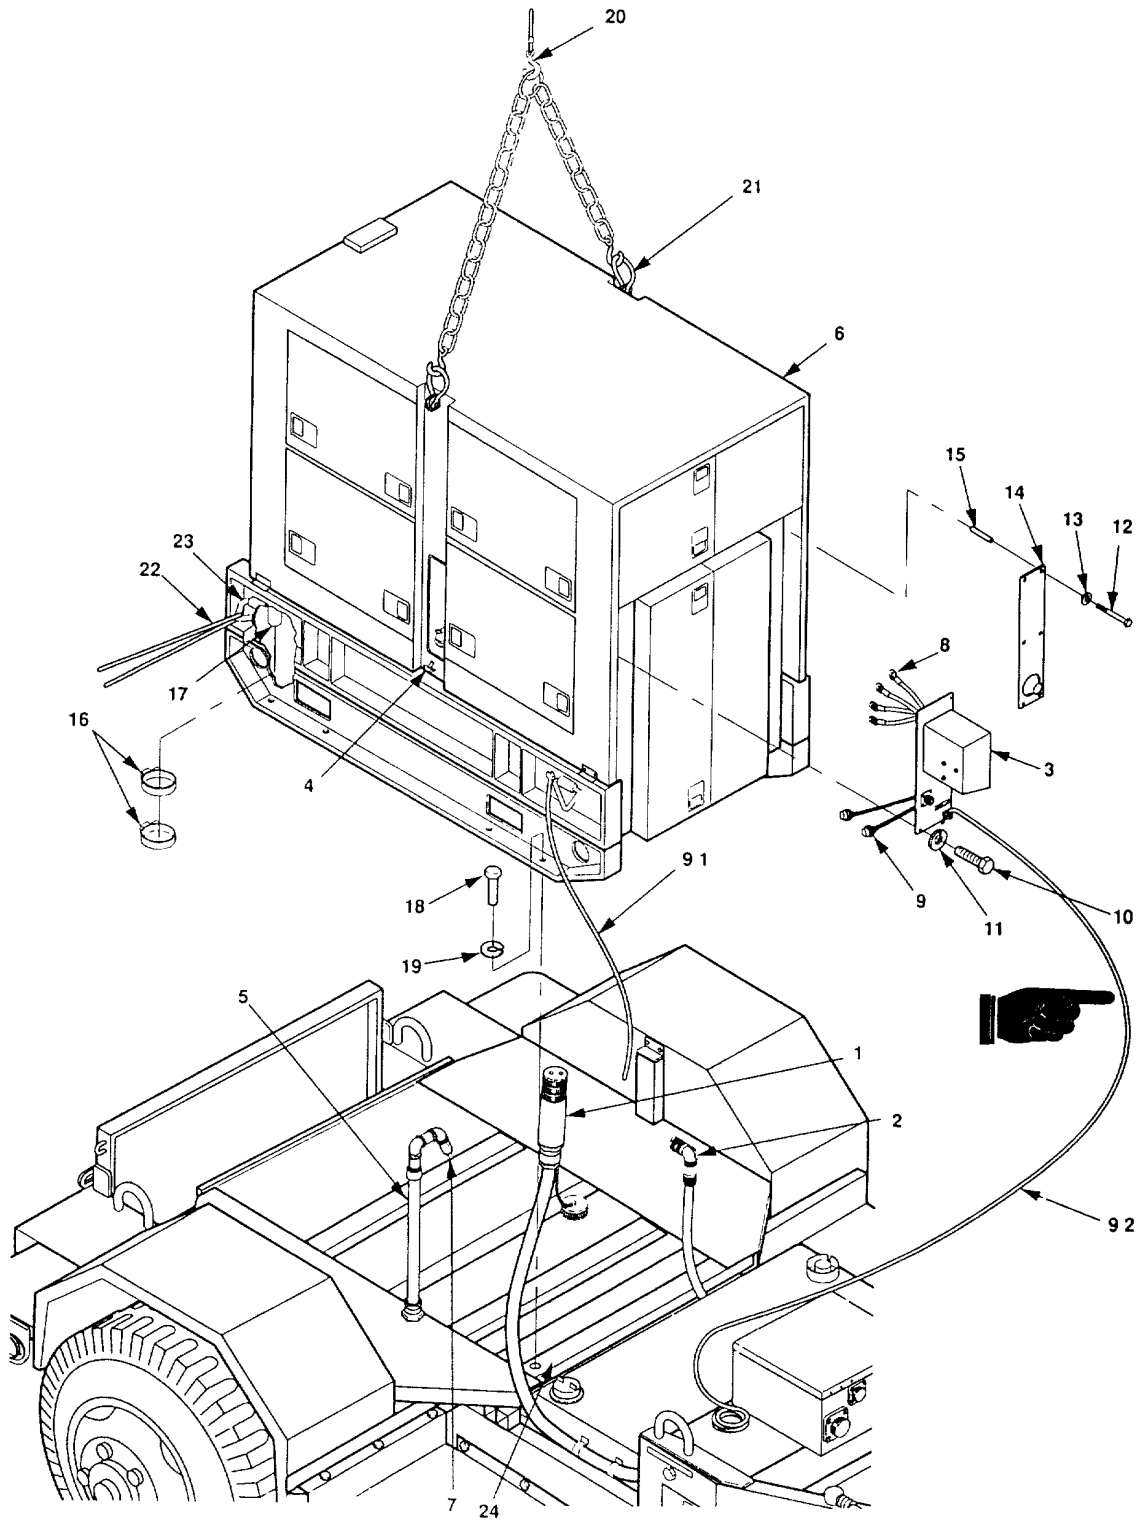
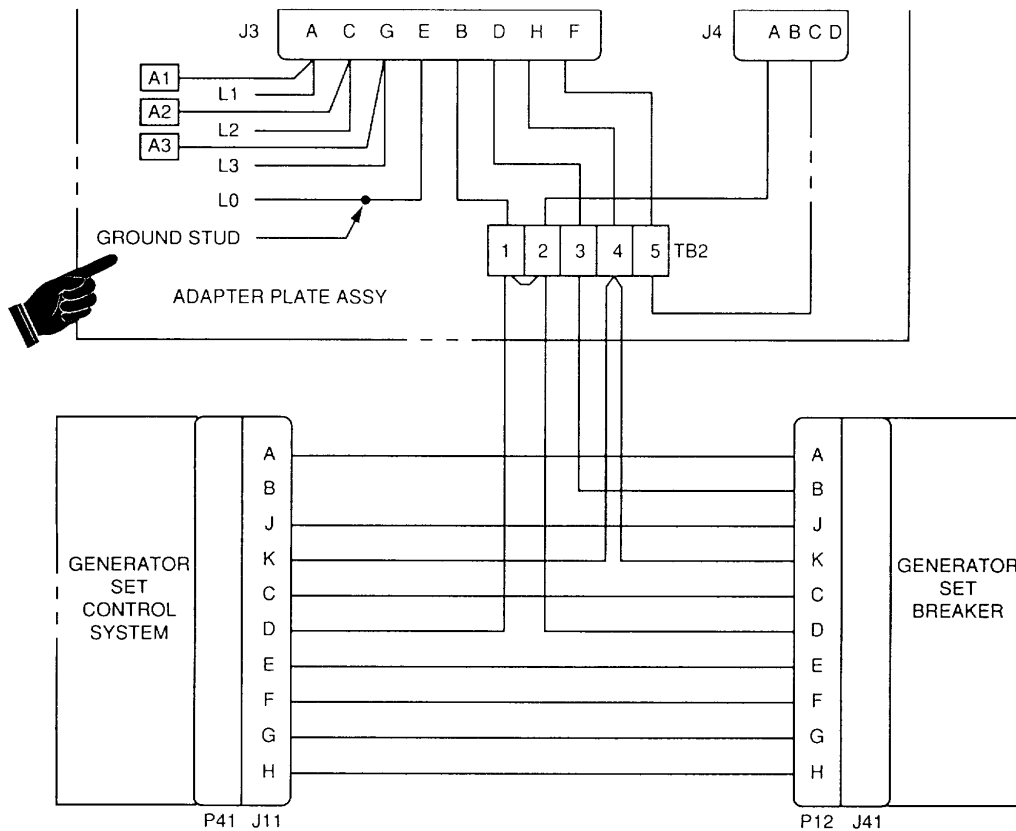

Figure 5-1. Generator Set Replacement.
Figure 5-3. Adapter Plate Assembly Wiring Diagram.
5-2. Generator Set Replacement. (See figure 5-1.)
- (1) Unplug P3 power/control cable (1, figure 5-1) and P4, P7 low fuel cable (2) from adapter plate assembly (3).
- (2) Turn fuel selector valve (4) to OFF. Disconnect fuel line (5) from generator set (6) by unscrewing adapter (7) from generator set.
- (3) Open generator set side panels.
- (4) Disconnect four J3 harness wires (8) from generator set load terminals inside curbside front side panel.
- (5) Disconnect P12, J11 wiring harness (9) from connectors P41 and J41 on generator set (6) and from terminal board TB2 on adapter plate assembly (3). Pull wiring harness out through top. Reconnect P41 and J41.
- (6) Disconnect generator set ground wire (9 1) from generator skid ground. Disconnect ground wire (9 2) from adapter plate assembly GROUND.
- (7) Remove six screws (10) and six lockwashers (11) and remove adapter plate assembly (3) from generator set (6).
- (8) Remove four screws (12) and four lockwashers (13) and remove sleeve plate assembly (14) and spacers (15) from generator set (6). Retain screws, lockwashers and spacers for installation on replacement generator set. Using hardware stored in generator set storage compartment, install sleeve plate assembly on generator set at location from which adapter plate assembly was removed in step (6).
- (9) Remove two hose clamps (16) from each of four generator set fuel tank vent lines (17) and retain for installation on new generator set (6).
- (10) Close generator set side panels.
- (11) Remove eight screws (18) and eight lockwashers (19) securing generator set (6) to trailer.
- (1) Attach lifting equipment (20) with a minimum lifting capacity of 5000 lb to both lifting eyes (21) on top edge of generator set (6) . Insert a rope (22) through each of four tiedown rings (23) on generator set.
- (2) With one person at each rope to steady and guide generator set (6), lift generator set and carefully lower it onto trailer.
- (3) Insert eight screws (18), with one lockwasher (19) each, through generator set skids into threaded inserts in generator supports (24).
- (4) Open generator set side panels.
- (5) Remove sleeve plate assembly (14) from curbside front of generator set (6) and store hardware in generator set storage compartment. Using four screws (12), four lockwashers (13) and four spacers (15) retained during generator set removal, mount sleeve plate assembly in its storage position on roadside front of generator set, as shown in figure 5-1.
- (6) Install adapter plate assembly (3) on curbside front of generator set (6) with six screws (10) and six lockwashers (11).
- (7) Separate connectors P41 and J41 on generator set (6). Connect P12, J11 wiring harness (9) to generator set by connecting P12 to J41 and J11 to P41, and to terminal board TB2 on adapter plate assembly (3) (Refer to figure 5-3 when reconnecting wires).
- (8) Connect four J3 harness wires (8) to generator set load terminals as follows J3 pin A to L1, J3 pin C to L2, J3 pin G to L3 and J3 pin E to L0.
- (9) Connect generator set ground wire (9 1) to generator skid ground Connect ground wire (9 2) to adapter panel assembly GROUND.
- (10) Connect fuel line (5) to auxiliary fuel connection on generator set (6) Turn fuel selector valve (4) to AUXILIARY
- (11) Plug P3 power/control cable (1) and P4, P7 low fuel cable (2) into connectors J3 and J4 respectively on the adapter plate assembly (3).
- (1) If jumper (17) was removed during disassembly, unscrew one terminal screw (16) on terminal 1 and adjacent screw (16) on terminal 2, position jumper over screw holes and reinstall screws. Position terminal board TB2 (2) and marker strip (15) on welded bracket inside adapter place (6) and fasten with two screws (14). Reconnect wires. (See figure 5-3 for wire routing information.)
- (2) Slide EMI gasket (13) over J4 harness wires (9) and up against J4 connector flange. Feed J4 harness wires through J4 connector opening in adapter plate (6) and mount connector and gasket to adapter plate with four screws (10), four flat washers (11) and four self-locking nuts (12). Reconnect J4 harness wires to terminal board TB2 (2). (See figure 5-3 for wire routing information).
- (3) Slide EMI gasket (7) over J3 harness wires (1) and up against J3 connector flange. Feed J3 harness wires through J3 connector opening in adapter plate (6). Secure surge protectors (5.5) to the adapter plate (6) using three bolts (5.1), three flat washers (5.2), three lockwashers (5.3) and three nuts (5.4). Mount connector and gasket to adapter plate (6) with four screws (3), four flat washers (4) and four self-locking nuts. (5). Make sure tab of connector cover chain (18) is mounted to connector with lower right corner hardware. Reconnect J3 harness wires to generator set load terminals and terminal board TB2 (2) (See figure 5-3 for wire routing information).
- (4) Reconnect P3 power/control cable and P4, P7 fuel cable Reconnect ground cable to adapter plate GROUND.
- (5) Close generator set side panel.